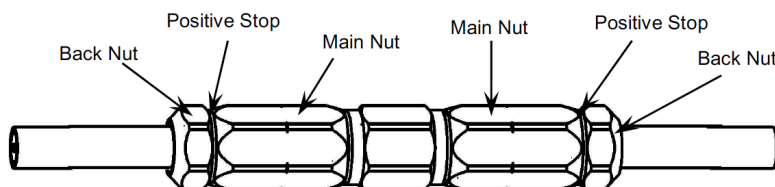

Fig. 8
7. Fully hand-tighten both **BACK NUTS**. Then, using two wrenches, one on the **MAIN NUT**, fully tighten one **BACK NUT** to the **MAIN NUT** until the positive stop is engaged. Reposition wrench to the other **MAIN NUT** and then fully tighten the **BACK NUT** to the **MAIN NUT** until the positive stop is reached. The front leading edge of the **BACK NUT** will contact mating surface of the **MAIN NUT** causing an increase in tightening torque, as shown in Figure 8.